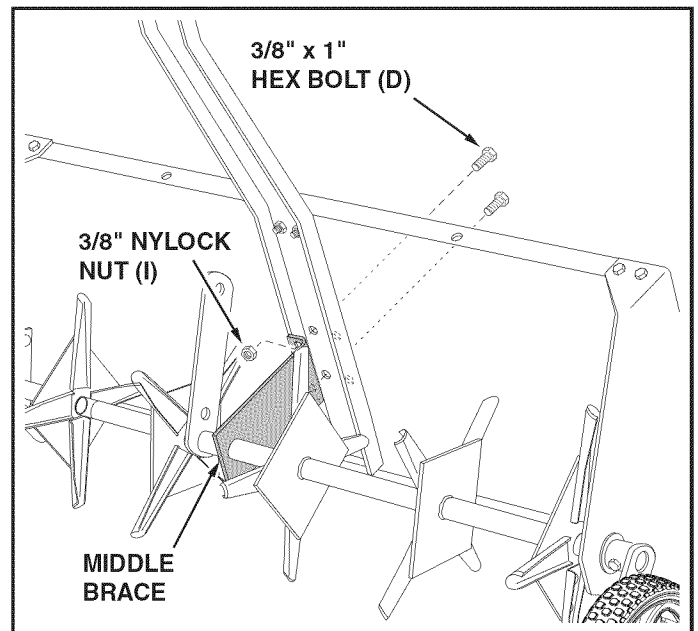

FIGURE 10
- Tip the aerator back and rotate the middle brace up against the tongue, aligning it on the side of the tongue that is next to the slot in the tray. Fasten the middle brace to the bottom of the tongue using two 3/8" x 1" hex bolts (D) and 3/8" nylock nuts (I). **Do not tighten until final step.** See figure 10.